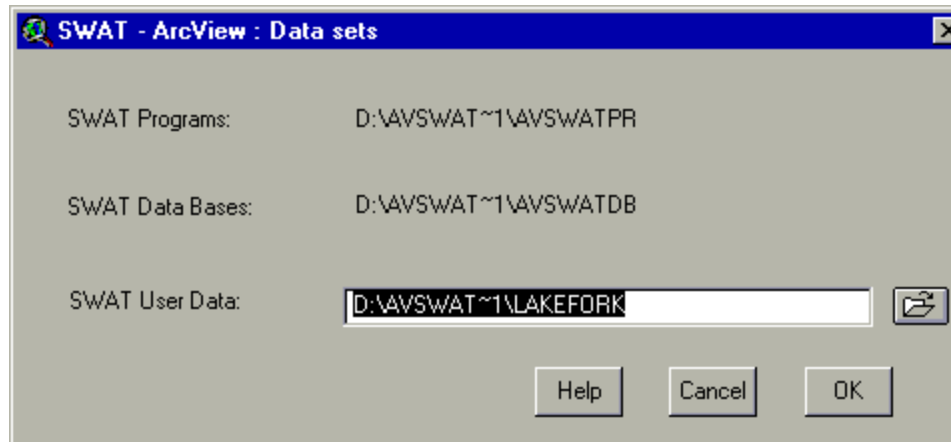

Figure 15.4
8. After the project name is specified, the interface brings up the Environmental Variables prompt box (Figure 15.4). This prompt box lists the directories in which the interface searches for the information needed to create the SWAT input files.